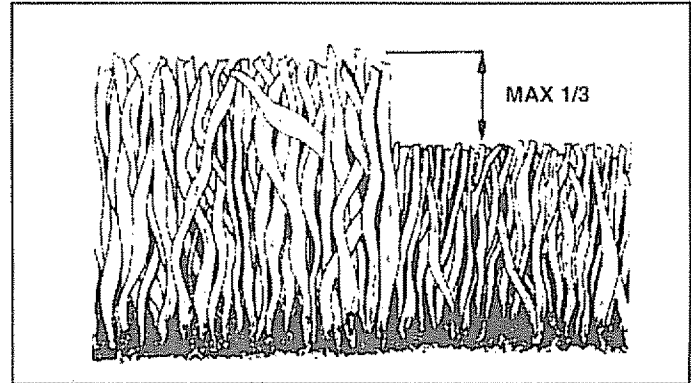

FIG. 11
- For best results, adjust the lawn mower cutting height so the blades (See Fig. 11). If the lawn is overgrown it will be necessary to keep from overloading the engine and leaving clumps of grass by overlapping previously cut path and mow side by side.